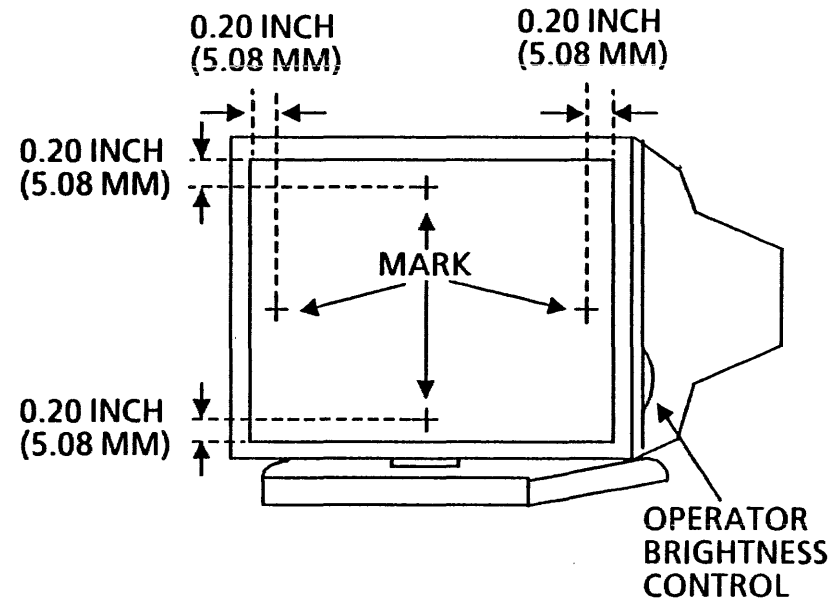

Figure 4-18 6085 15 Inch Display
- a. Use a felt tip pen to mark the face of the display as shown in Figure 4-18.